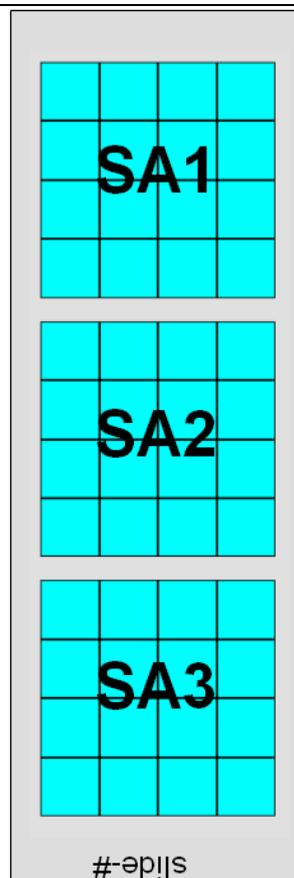

Figure 2: Schematic layout of a peptide microarray (SA=subarray).
Please refer to the .gal-file provided together with data files for identity and location of the spots on the microarray surface. The microarray side carrying the engraved label represents the surface displaying the attached peptides. The .gal-file can be opened using microarray evaluation software-modules capable of evaluating high-density microarray slides or JPT's GalViewer-software (part of data files sent by customer support). Since .gal-files are tab-separated text files, they can also be processed with software modules such as Microsoft Editor (Notepad) or Microsoft Excel. A schematic layout of the peptide microarray is shown in Figure 2.
As shown in Figure 2 the peptide microarray is printed in three identical subarrays (SA). This enables efficient intra-chip-reproducibility tests using scatter plots or correlation functions.